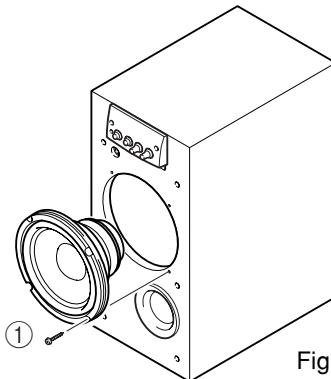

Fig. 2
- Remove 4 (8 when YST-SW305) screws (①) in Fig. 2, and remove the Driver unit.